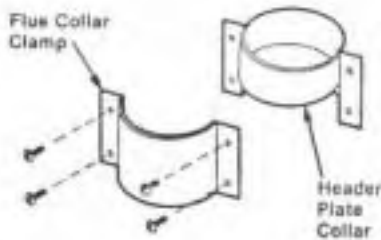

Figure 12
Step 3: Remove the flue collar clamp from the header plate assembly by removing the four (4) #559 machine screws (Figure 12). Set this clamp and the four screws aside for later attachment.